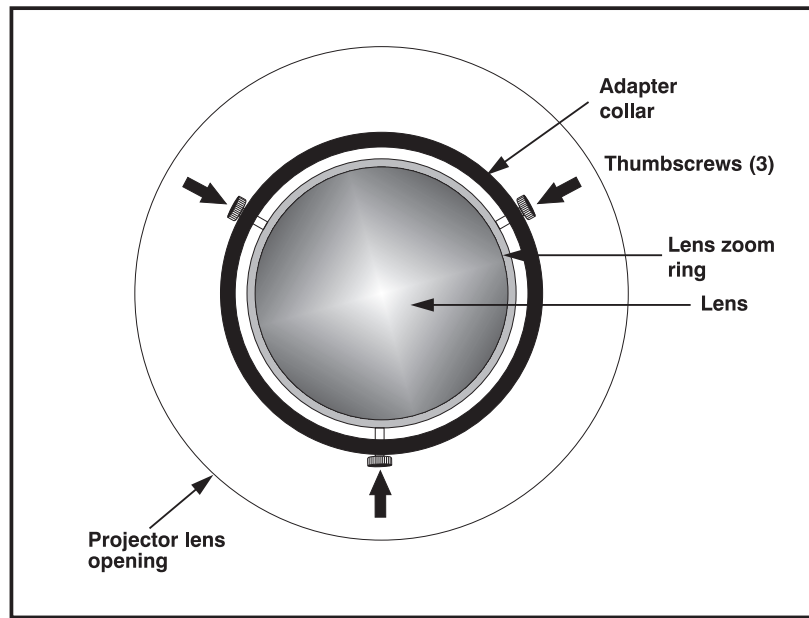

Figure 4-10. Tighten 3 thumbscrews equally
- f) Turn off and unplug the projector. Gradually tighten the 3 thumbscrews equally, taking care to keep the adapter collar and lens centered with one another (Figure 4-10). The adapter collar should be securely attached to the lens zoom ring when you are done.